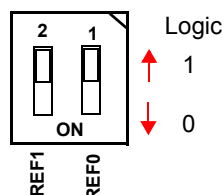

FIGURE 1. TYPICAL U2 DEFAULT SETTING 11 (1.500V)
- Set the "REF Selection" DIP switch (U2) to 11 corresponding to DAC = REF = 1.5V. Figure 1 details the typical default configuration for U2 when the board is received. In this default setting, the evaluation board is set for a reference voltage of 1.5V.